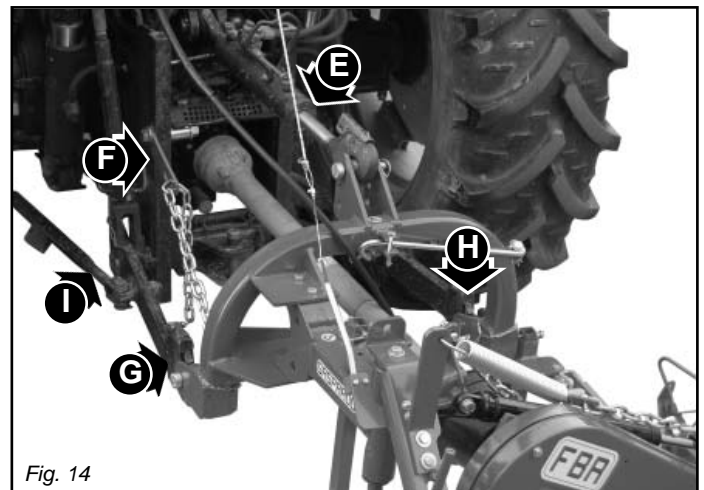

Fig. 14
- 1) Hook the oscillating arms of the tractor to pins (G and H, Fig. 14).
- 2) Connect the upper third-point and correctly regulate by means of the adjuster (E, Fig. 14). Place plate (F, Fig. 14) at the left side of the hicht integral with the same pin. Lock in place with the snap-in split pins.
- 3) Lock the lift links using the relative chains (I, Fig. 14) and couplings parallel to the tractor. This operation must be carried out to prevent the machine from moving in a horizontal direction.